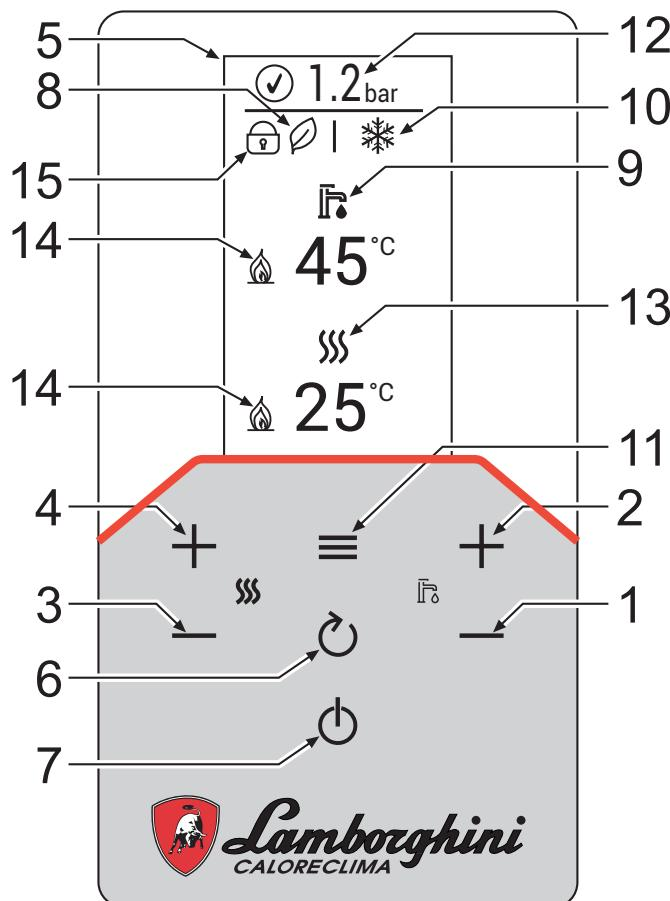

fig. 1- Control panel
Panel legend fig. 1
Repeatedly press the button (1) until the summer symbol (sun) appears, with the word "OFF" for heating (detail 10 - fig. 1): the boiler will only deliver hot water. The frost protection system remains on.
Use the heating buttons (details 3 and 4 - fig. 1) to adjust the temperature from a minimum of 20°C to a maximum of 80°C. The maximum value can be changed inside the **parameters menu [TSP]** via parameter P40.
Use the DHW buttons (details 1 and 2 - fig. 1) to vary the temperature from a minimum of 10 °C to a maximum of 65 °C. The maximum value can be changed within the **parameters menu [TSP]** by acting on **parameter P46**.